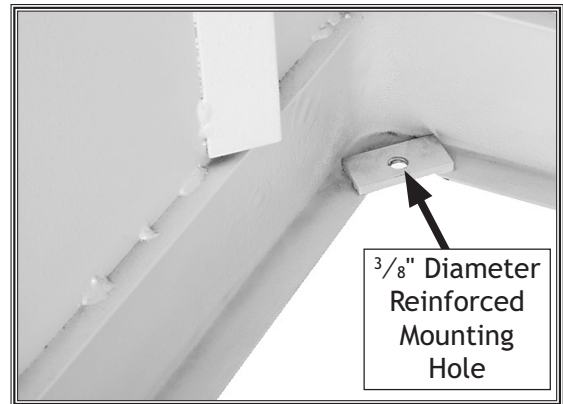

Figure 7. Foot installation.
2. Next, thread each bolt into the reinforced holes shown in **Figure 7**, and then thread the four remaining $\frac{3}{8}$ " x 16 hex nuts onto each bolt to lock the feet in place.